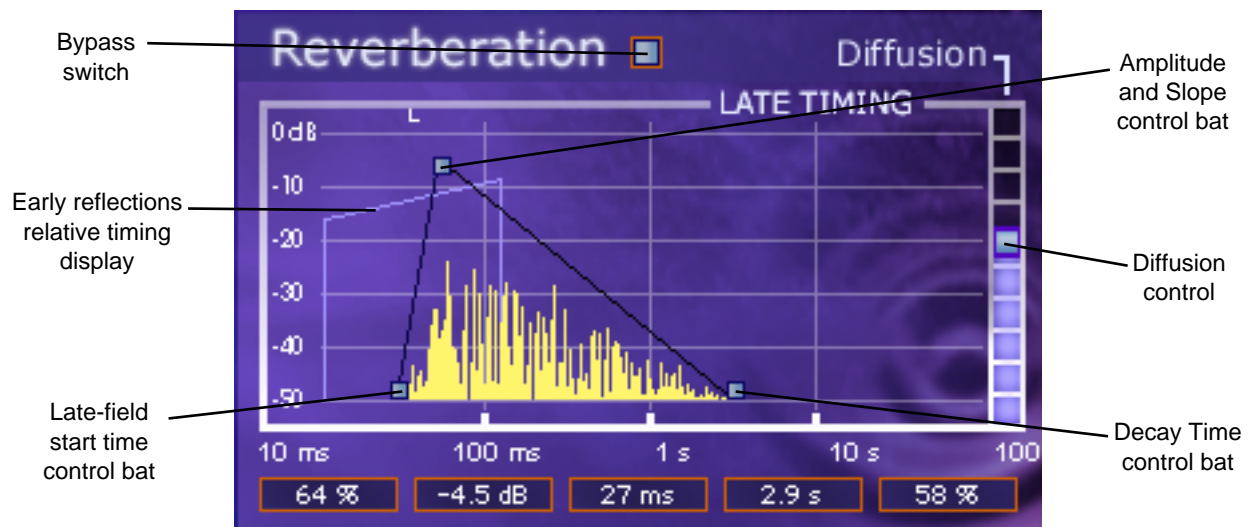

Figure 75. DreamVerb Reverberation panel
Note: While materials are used to control decay rates as a function of frequency, the overall decay rate of the late-field reverberation is controlled from the Reverberation panel (see Figure 75 on page 155).
The Reverberation panel (Figure 75) contains the parameters that control the late-field (LF) reverb tail for DreamVerb.